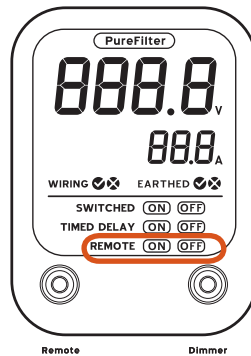

Fig. 3b
- B. Press the “Remote” button on the front of the Power Console to turn on the remote function. The LCD display should read “REMOTE ON”. (Fig. 3b)